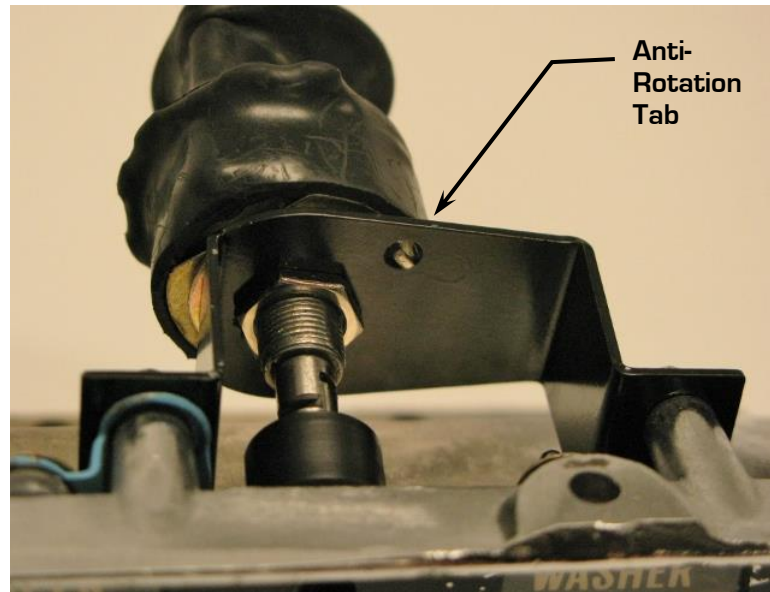

Figure 8 – Tighten Switch Nut
15. With the anti-rotation tab of the switch locked in place on the switch adapter, tighten the hex nut onto the wiper switch (Figure 8).